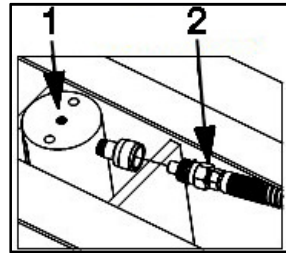

Fig. 27: Connect hydraulic hose
1. If not already removed, remove protective cap and seal from the quick coupler fitting on the Hydraulic Cylinder [Fig. 27, Pos. 1]. These items are removed by loosening the collar of quick coupler and then removing cap and rubber seal. Insert the pump's Hydraulic Hose into the quick coupler as shown in Fig. 27 and thread the quick coupler's collar onto the hose until hand tight.
2. Check that the Hydraulic Hose [Fig. 27, Pos. 2] is not routed over any sharp edges and is located so it does not rub against any cables or other moving parts.